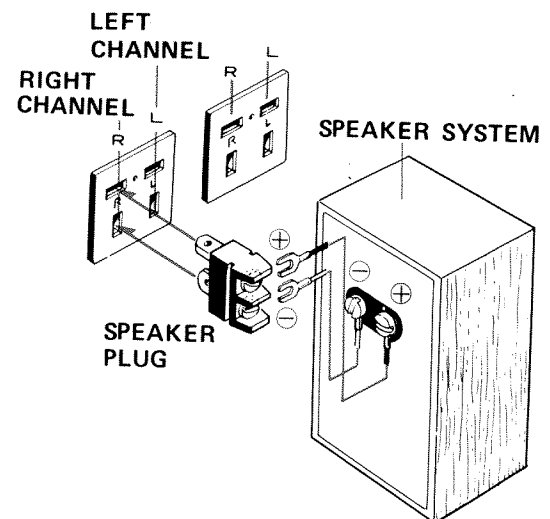

Fig. 5
- As shown in Fig. 5, connect the lead wires of the speaker system to the supplied speaker plugs. Be sure to observe the correct polarity and to cause no short between  $\oplus$  and  $\ominus$ .
- For the second (third) pair of speakers, use the B(C) speaker sockets. Connect in the same way as for the first pair.